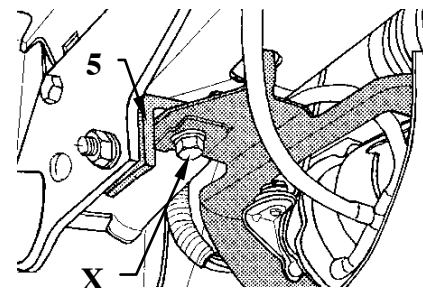

Fig. 2
2. Fix loosely right angle bar (pos. 5) to the right side of the chassis through hole (pos. A) using bolt M10x35mm (pos. 7).
**For models without level adjustment:** Fix loosely left angle bar (pos. 5) to the left side of the chassis through hole (pos. A) using bolt M10x35mm (pos. 7).
**For models with level adjustment:** Remove bolt X shown in figure 2, place angle bar (pos. 5) between just removed plate and the chassis. Fix loosely using bolt M10x35mm.